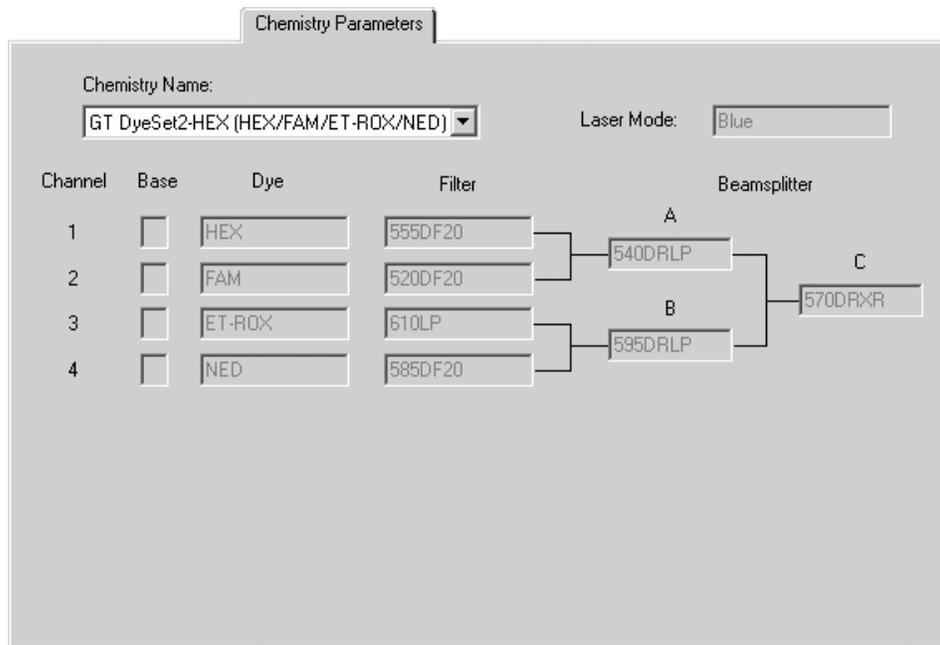

Figure 10-2. The Chemistry Parameters tab of the Plate Setup window for STR genotyping.
- Chemistry Parameters tab (figure 10-2)
Chemistry Parameters (figure 10-2)	<p>To specify the chemistry parameters, you specify or select a predefined chemistry name. Each chemistry name has an associated set of parameters, including laser mode, dye names, the filter names, and the beamsplitters used for the run.</p>
- In the **Chemistry Parameters** tab (figure 10-2), select a name from the **Chemistry Name** list.